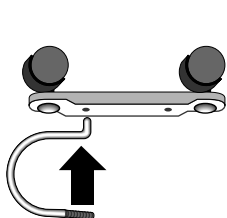

fig.1
- The feet with the casters must be fitted with two arc-shaped brackets only between the 1st and 2nd element (see fig. 1 to 4 inclusive)